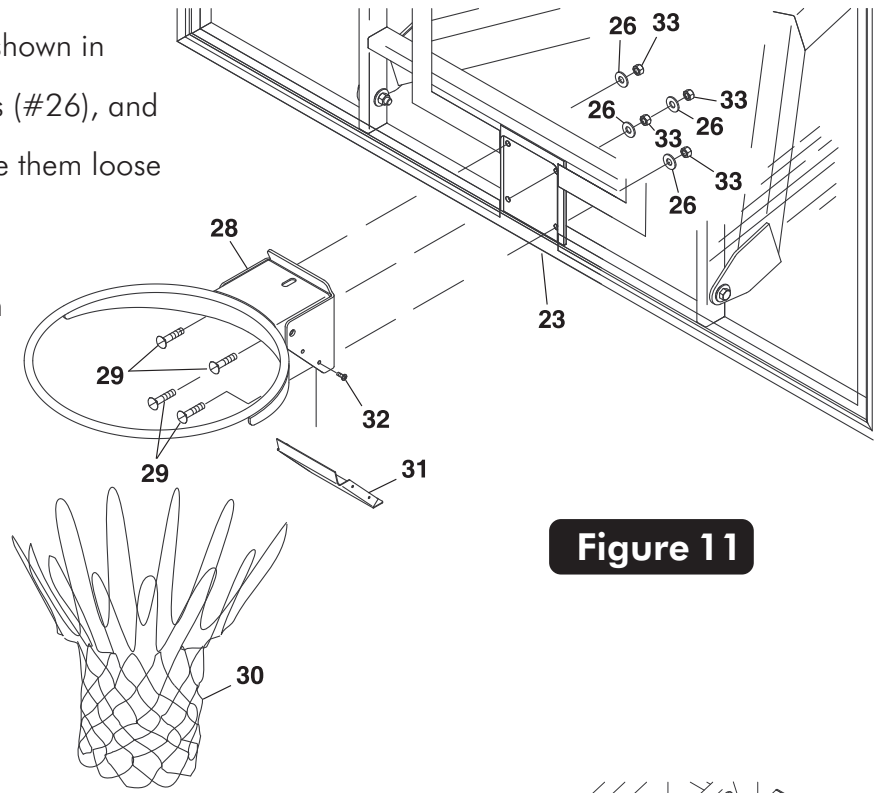

Figure 11
16. Mount Goal Assembly (#28) to Backboard, as shown in **Figure 11**, using four bolts (#29), four washers (#26), and four locknuts (#33). Tighten fasteners, but leave them loose enough to level rim.
18. Attach Rim Cover Plate (#31) using four screws (#32). See Figure 11.